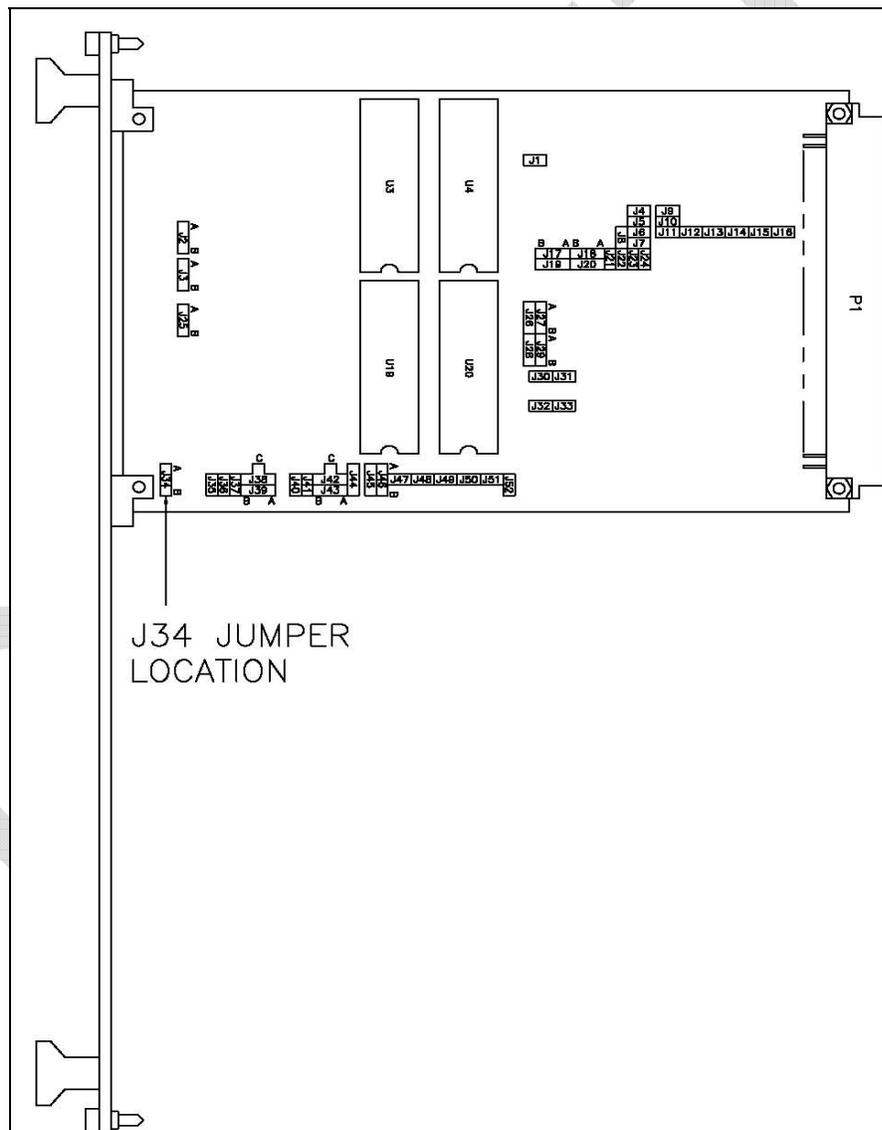

Figure A-8: DCP Memory Board J34 Location
18. Locate J34 on the DCP memory board and note its exact location (**B position** is toward the bottom, pin A is empty). Remove J34 and leave disconnected for 5 minutes. See Figure A-8.